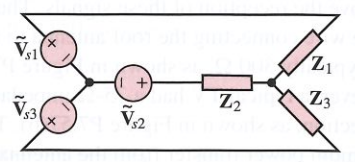

Figure P7.65
7.65 The three-phase circuit shown in Figure P7.65 has a balanced wye source but an unbalanced wye load.